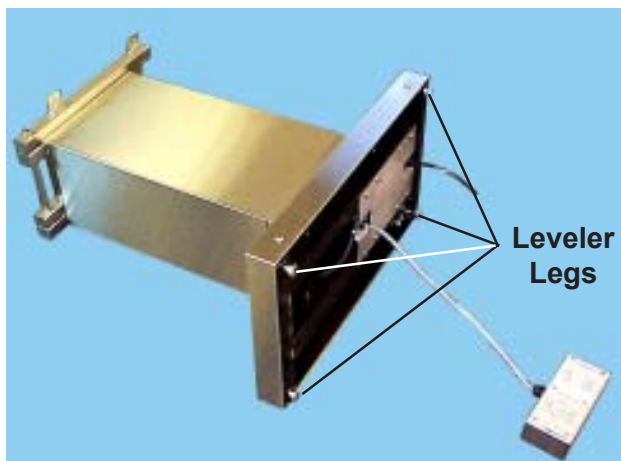

Figure 4. Base Laying Down
5. Lay the base down as shown in Figure 4 to reach the leveler legs under the unit. **Note:** The base is usually shipped with the leveler legs screwed fully into the base, so they will have to be backed out to provide adjustment room.
10. Place the level cross-wise on the base (Figure 4).